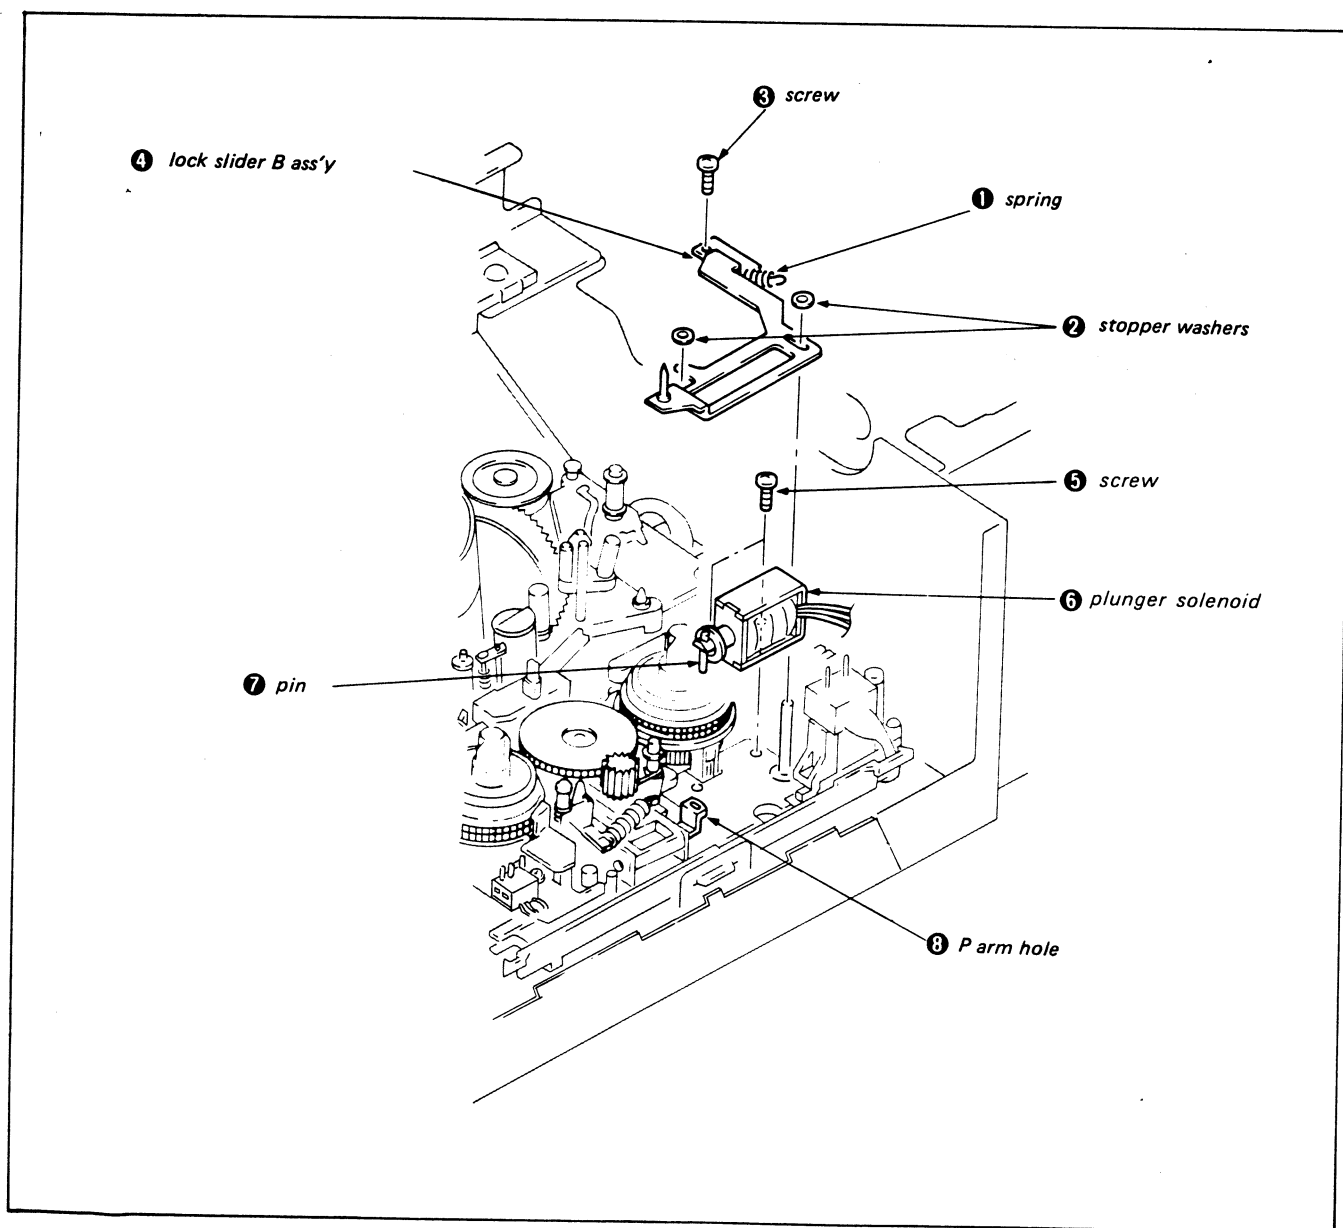

Fig. 3-32.
(At this time, be careful not to scratch the T reel assembly with the screwdriver, and do not touch it.) (Fig. 3-32)
- 1) Insert the plunger solenoid pin ⑦ into the P arm hole ⑧ and mount with the two screws ⑤. (Again, be careful not to scratch or touch the T reel assembly.)
- 2) Mount lock slider B assembly ④ and tighten screw ③.
- 3) Mount the two stopper washers ②.
- 4) Hook on the spring ①. (Fig. 3-32)